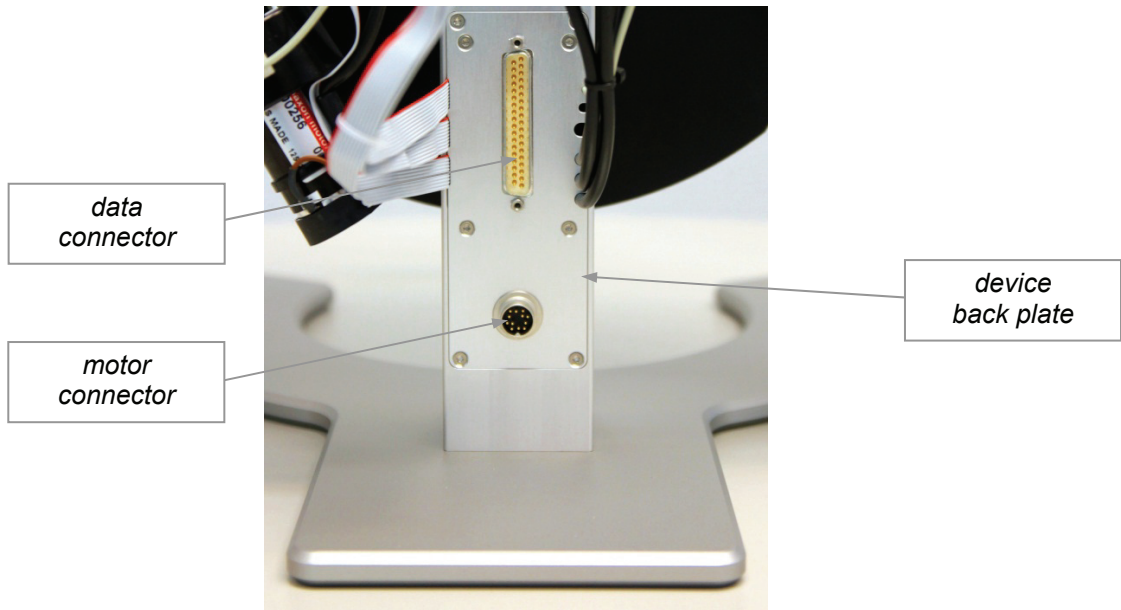
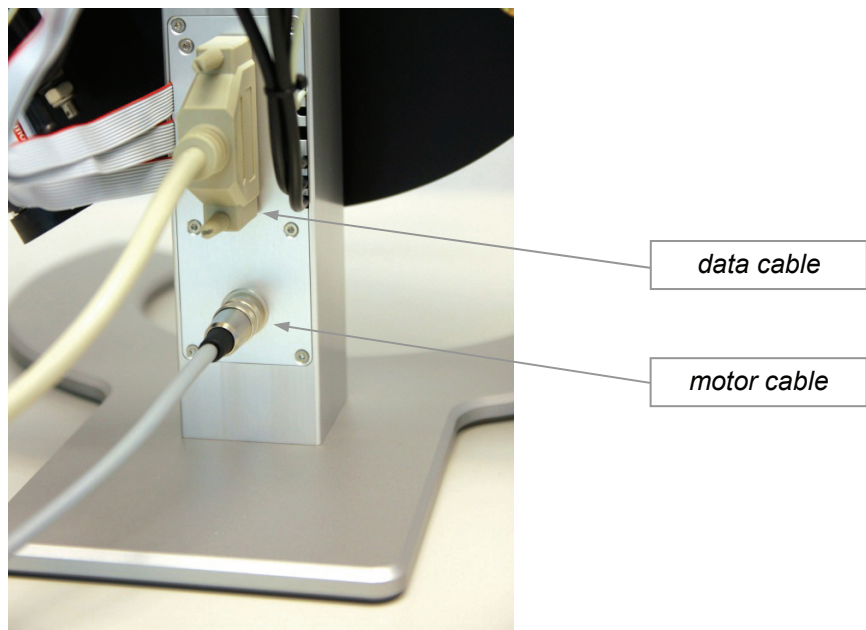

figure 1 – identifying the back plate connectors
figure 2 – connecting the data and motor cables
1. on the device back plate (figure 1), connect the data cable and motor cable to their respective connectors (figure 2).